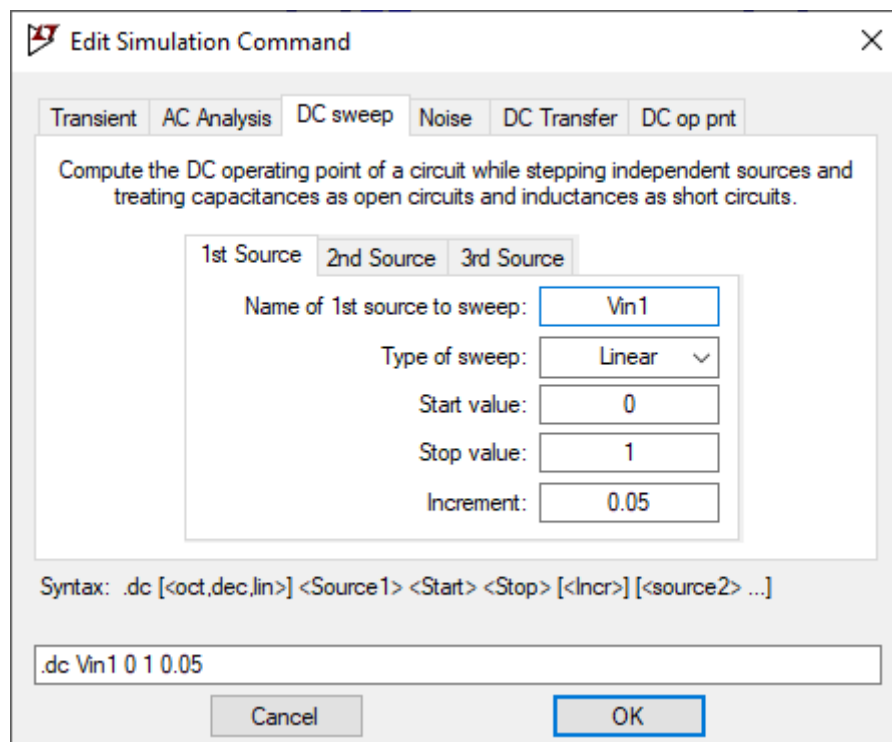

Fig. 8. DC sweep parameters
3. Run DC sweep analysis (refer to Fig. 8) for the output voltage (Vout), include the plot in the report.